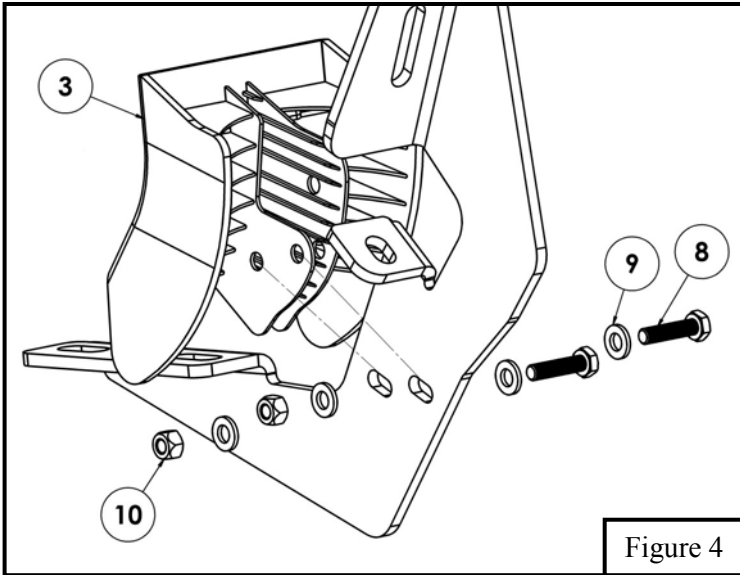

Figure 4
5. Locate (1) Plastic Bracket Cover (Item 3) and loosely secure it to the (6) brackets using the provided hardware: (2) M6 hex head bolt, (4) M6 flat washer, and (2) M6 nylon lock nut. Repeat for every bracket. See **Figure 4**.